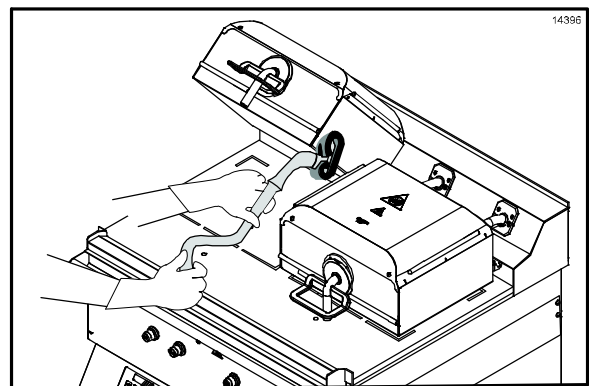

Figure 84
- Apply grill cleaner to the inner edges of the right and left platens. (See Figure 84.)